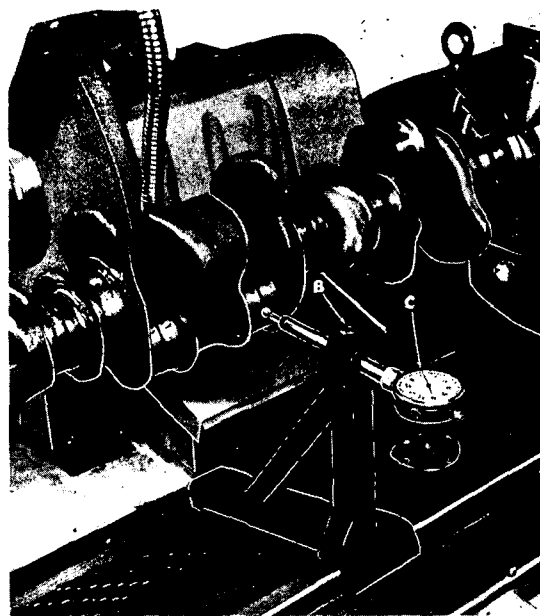

Figure 10—Trueing Fixture
### 508—TRUEING FIXTURE (Fig. 10)
The indicator (C, Fig. 10) is shipped in a separate box to prevent damage. Assemble as follows: Remove the tape from the trueing fixture shank and remove the small brass plug from the tape. Place the indicator into the hole at the knurled end of the shank. Remove the small set screw at the knurled diameter and place the brass plug in the tapped hole. Replace the set-screw and position the indicator so that its needle moves only a few marks and tighten the set-screw. The trueing fixture is now ready for use.
The shank (A, Fig. 10) is adjustable to any position when the thumb screw (B) is loosened. The trueing fixture base is machined to fit the contour of the front table and is so balanced that it requires no clamping. Always be sure that the fixture fits securely against the front table for accurate readings. Protect the indicator from damage.